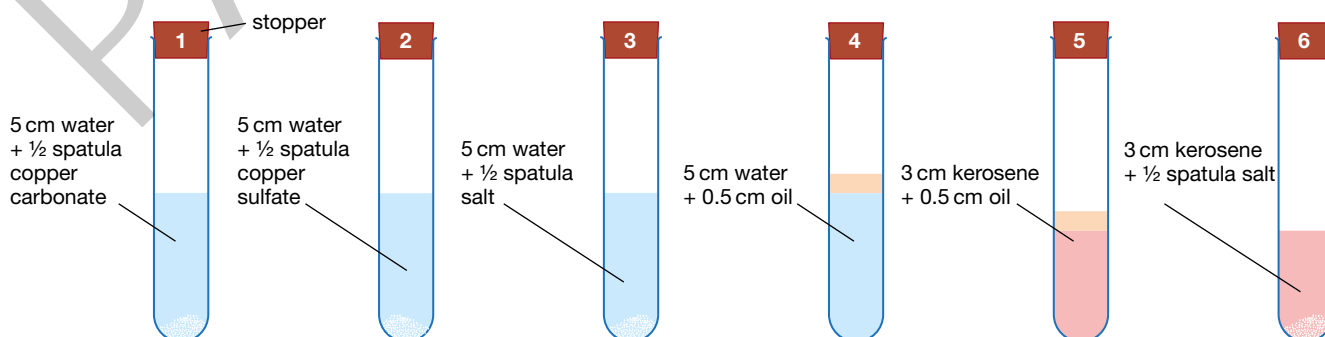

FIGURE 4.1.13
- 4 Add different solutes to the different test-tubes as shown in Figure 4.1.13.